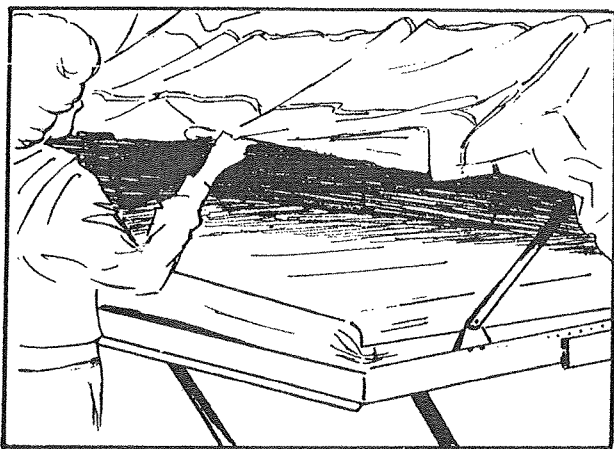

FIGURE 10
18. With both beds fully extended and supported, grasp the bottom edge of either the front or rear tent enclosure with hands approximately 2 1/2 feet apart and **gently** pull as illustrated until the tent is supported. See Figures 10 and 11.